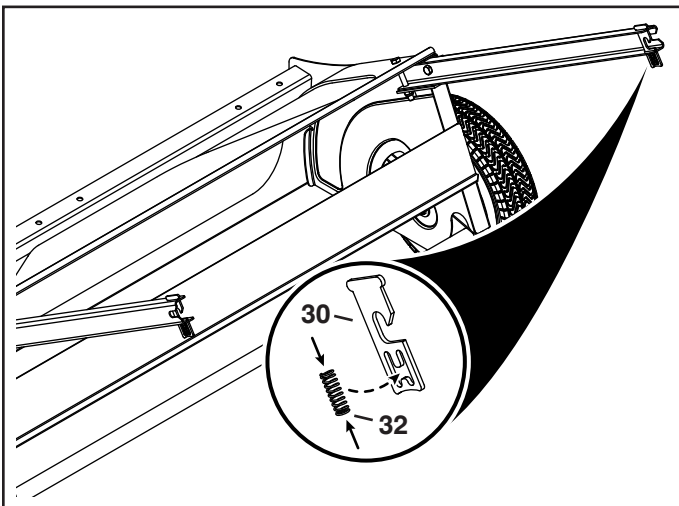

FIGURE 3
- Slide a pivot rod retainer (30) into each end of the bag arm channels. See figure 3.
- Insert a compression spring (32) into the bottom of each of the pivot rod retainers to secure them to the bag arm channels. See figure 3.